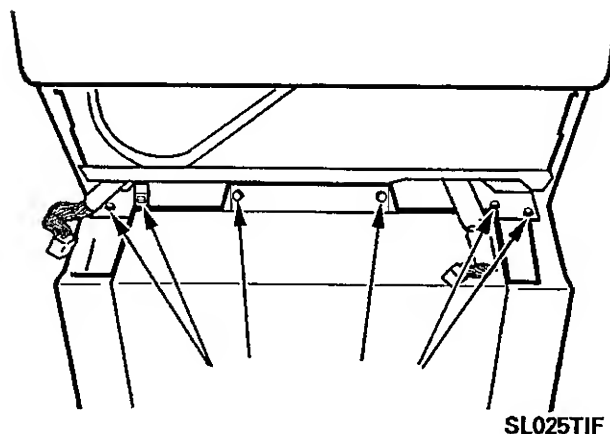

Figure 5-10
4. Remove the six screws across the lock support (**Figure 5-10**).